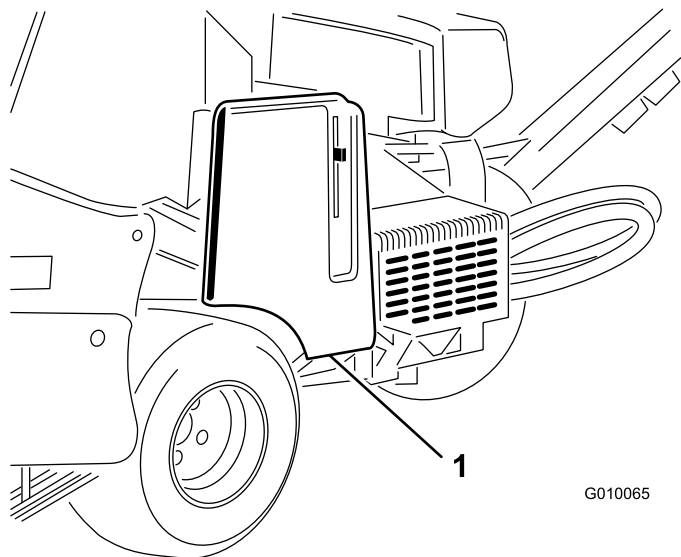

Figure 56
2. Unlatch and remove the belt cover (Figure 56).